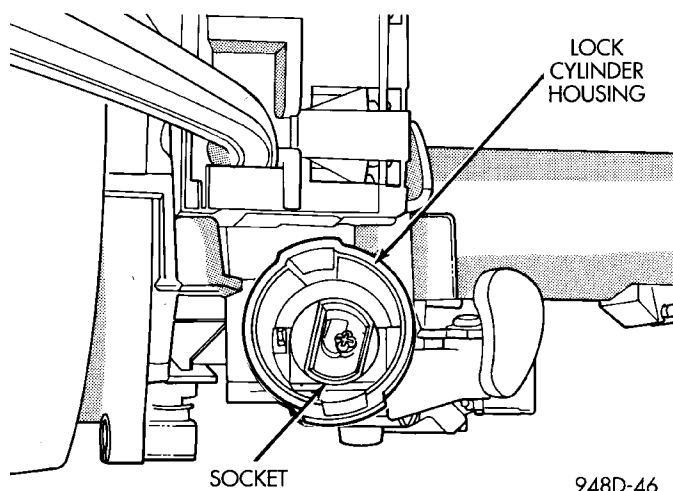

Fig. 46 Socket in Lock Cylinder Housing
- (2) The shaft at the end of the lock cylinder aligns with the socket in the end of the housing. To align the socket with the lock cylinder, ensure the socket is in the Run position (Fig. 46).